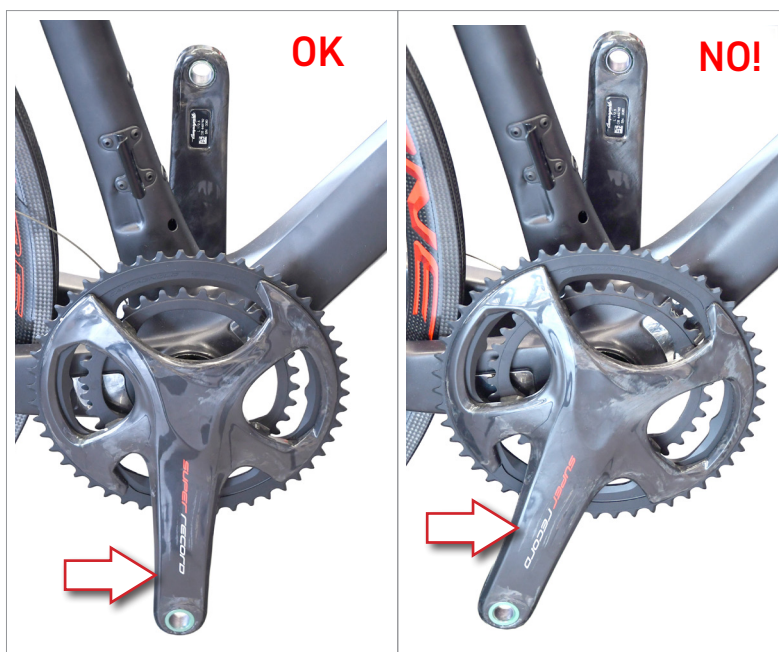

Fig.8
- Make sure that the hand cranks are correctly aligned (Fig. 8).